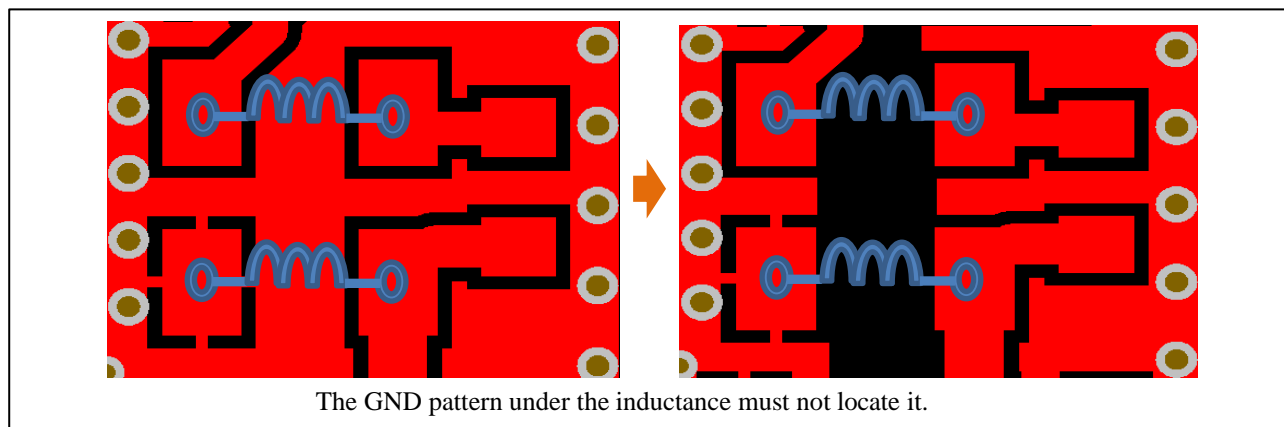

Figure 5-7 Cautions on GND patterns under the inductor
- Do not place a GND pattern under the inductance as shown in Figure 5-7 to avoid noise influences on the GND pattern. (e.g. Inductors used in power supply circuits, power supply filters, etc.)